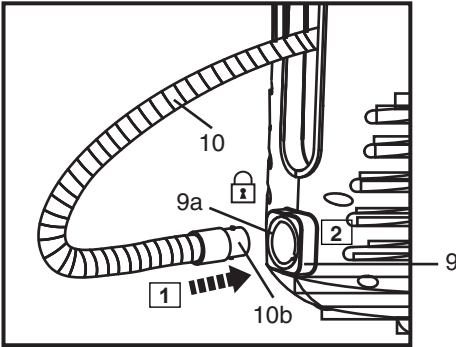

Fig. 2
1. This product is delivered with an air hose (10). It is completely pre-stored in the compartment (13) for the safety of transportation. Remove the air hose (10) from the compartment (13) to required length before assembly and operation.
2. Attach the air hose (10) to the air outlet nozzle (9) by securing the pins (10b) into the slots (9a) (Fig. 2).